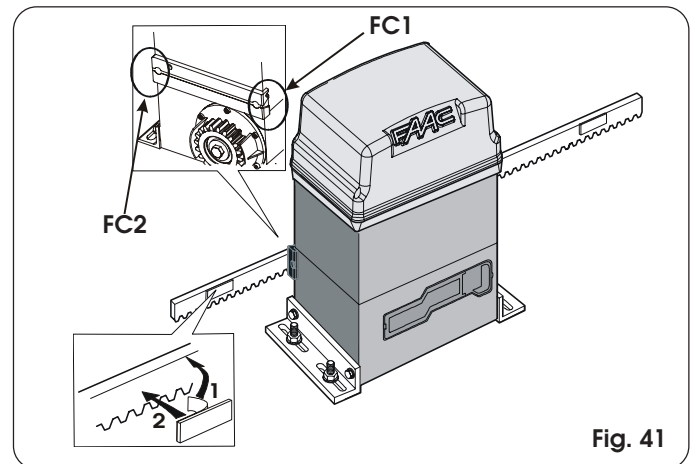
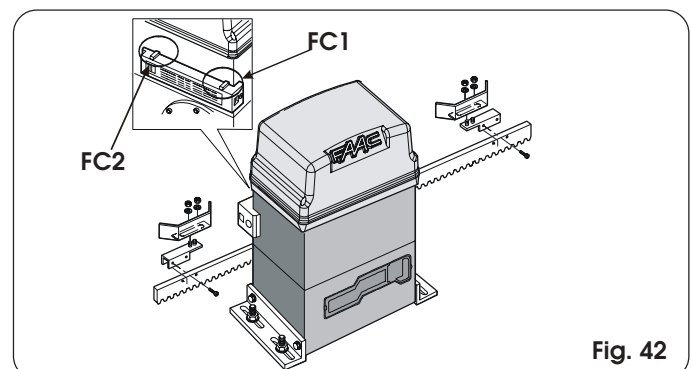

Fig. 41
Fig. 42
Operator 746 has a limit sensor switch which, by detecting the transit of a reference applied to the rack, commands the gate motor to stop. The device can be MLS (fig. 41) or inductive (fig. 42).
- 10) Clean the rack on its fitting points, remove the film on the adhesive parts of the magnets (fig. 41 ref. 1) and re-position the magnets with the adhesive strip in contact with the rack (fig. 41 ref. 2).
- 1) Assemble the limit-switch by centring the plate with respect to threaded pins of the support (Fig. 42).